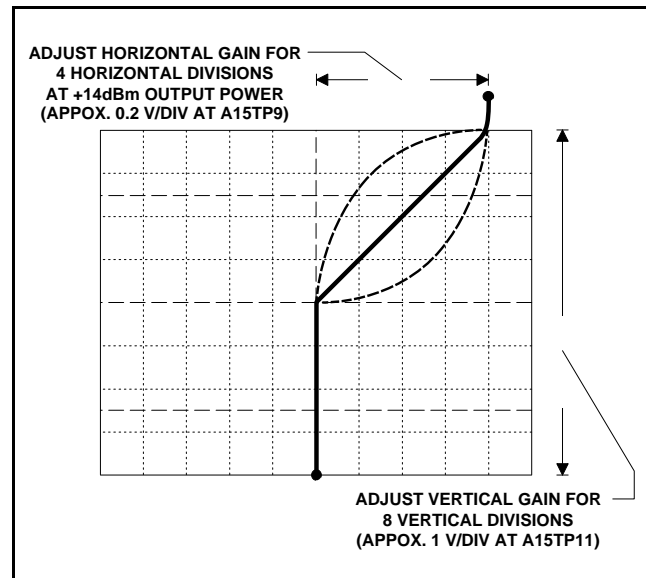

Figure 3-8. Typical Waveform for the ALC Bandwidth Calibration.
- (b) Release GND on the CH 1 and CH 2 inputs and adjust the vertical VOLTS/DIV and VOLTS/DIV vernier for an 8 division peak-to-peak vertical deflection as shown in Figure 3-8.
5. On the Oscilloscope, adjust the horizontal VOLTS/DIV and VOLTS/DIV vernier for a 4 division peak-to-peak horizontal deflection as shown in Figure 3-8.
In Figure 3-8, the dashed lines show the possible waveform that may be obtained initially. The heavy line shows the optimum waveform after calibration.